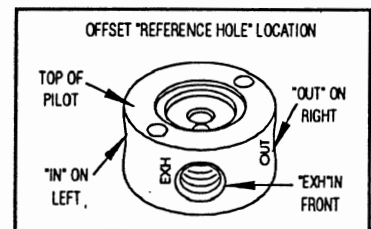

Figure 38. Pilot Body orientation for installing Stem/Diaphragm
- e. As shown in Figure 38 (page 15), invert Pilot Body and push inward on Large End of Item 32 pilot Stem while attaching Item 35 Lower Diaphragm with Offset Hole to the Opposite End of Stem. Dished side of diaphragm must face outward away from pilot body with beveled seat side facing inward. Offset hole in diaphragm may be oriented at random.